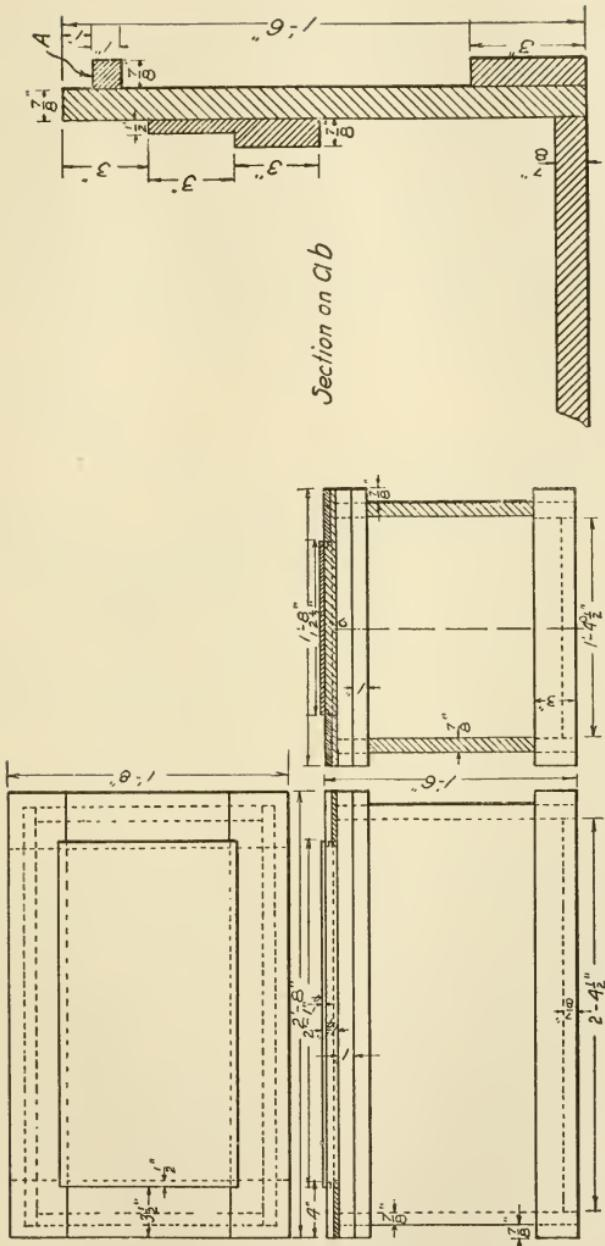
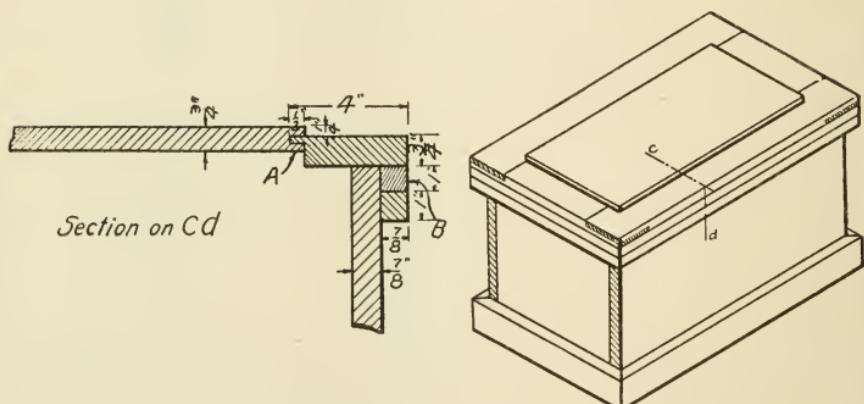
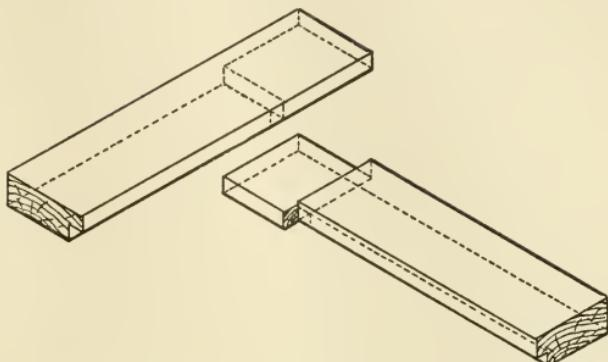
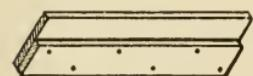

FIG. 119.—WORKING DRAWINGS OF TOOL CHEST.
FIG. 120.—ASSEMBLED TOOL CHEST.
FIG. 121.—HALVING THE CORNERS OF THE TOP.
FIG. 128.—SLIDE ON WHICH TRAY RESTS.
tongue of the rabbet in the frame. The rabbet and groove are shown in Fig. 120 at *A*. The method of halving the pieces together after cutting the rabbet is shown in Fig. 121, which is an illustration of the pieces ready to assemble.
8. Mitering the strips for the top. — If the top has been made according to the dimensions on the drawings, it will extend over the sides of the box 1" on each side and over the ends the same distance. Four strips each 1" wide and $\frac{7}{8}$ " thick are to be fastened to the under-side of this overhang of the top. These strips must be fitted so as to fit tight around the box, and are to be mitered at the corners. Lay out and cut just as the bottom strips were. Fasten to the top by screws put down through the top into the strips. (See *B*, Fig. 120.) Underneath these strips are four others the same size fastened to the box, and they act as a shoulder on which fall the top strips. (*A*, Fig. 119.)
11. Making slides. — The slides on which the trays rest should be as long as the chest is wide (inside measurements), and made of two pieces of $\frac{1}{2}''$ pine, one piece $6''$ wide and the other $3''$ wide, as in Fig. 128. The $3''$ strip is nailed to the $6''$ strip with one edge flush, and the whole is screwed to the ends of the chest $3''$ down from the upper edge, as shown in *Section on ab*, Fig. 119.